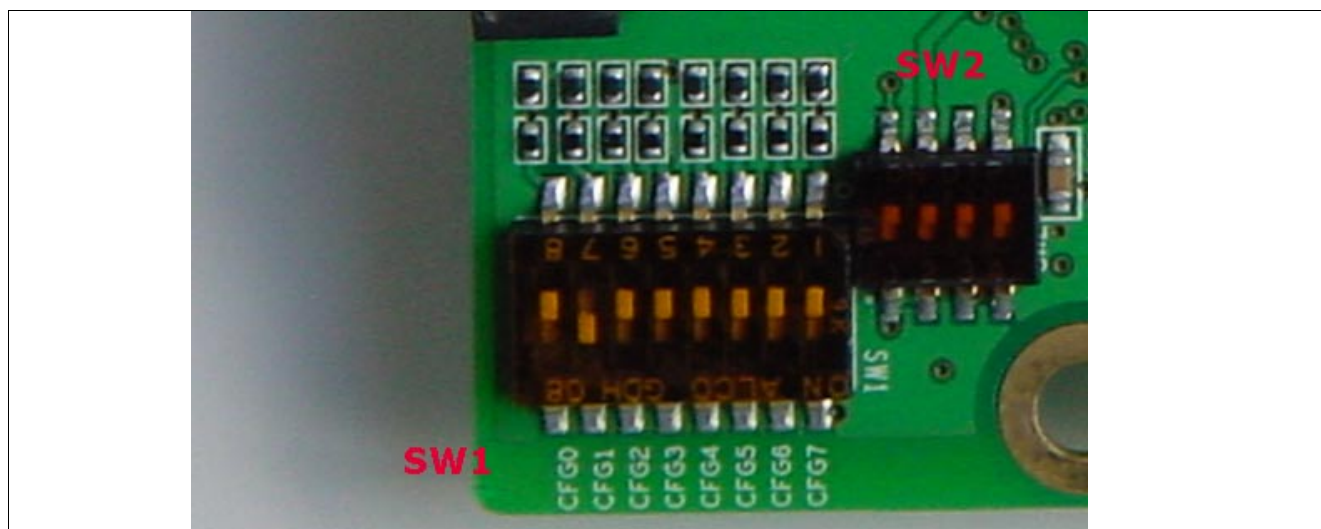

Figure 54 The Boot Configuration Switch (SW1) and Serial/Parallel Interface Select Switch (SW2)
1) 1 to 8 are the DIP-Switch numbers (SW1 on Figure 54)